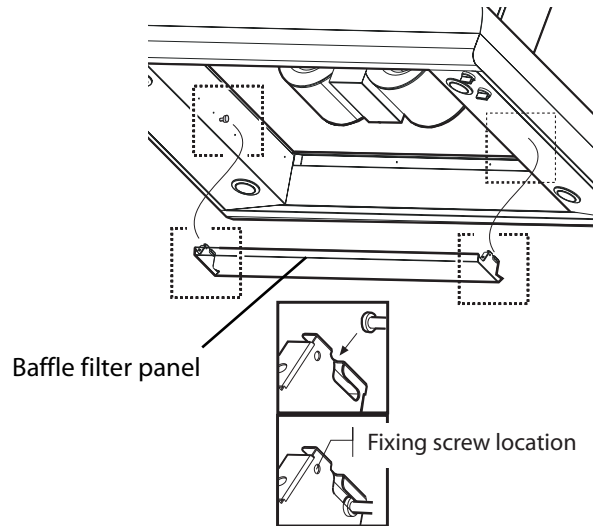

Fig. 12
2. Snap the central baffle filter panel into the place so the both rails engage with side pins on both sides of hood. Drive 2 screws (1 on each side ) through baffle filter panel hole to hood. See Fig. 12.